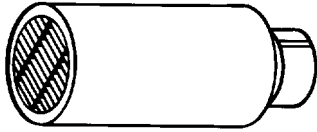

Figure 4. Boot and Tubing Reflector
15. **Boot and Tubing Reflector.** Used for shrinking tubing and molded components such as strain-relief boots and potting caps (Figure 4).